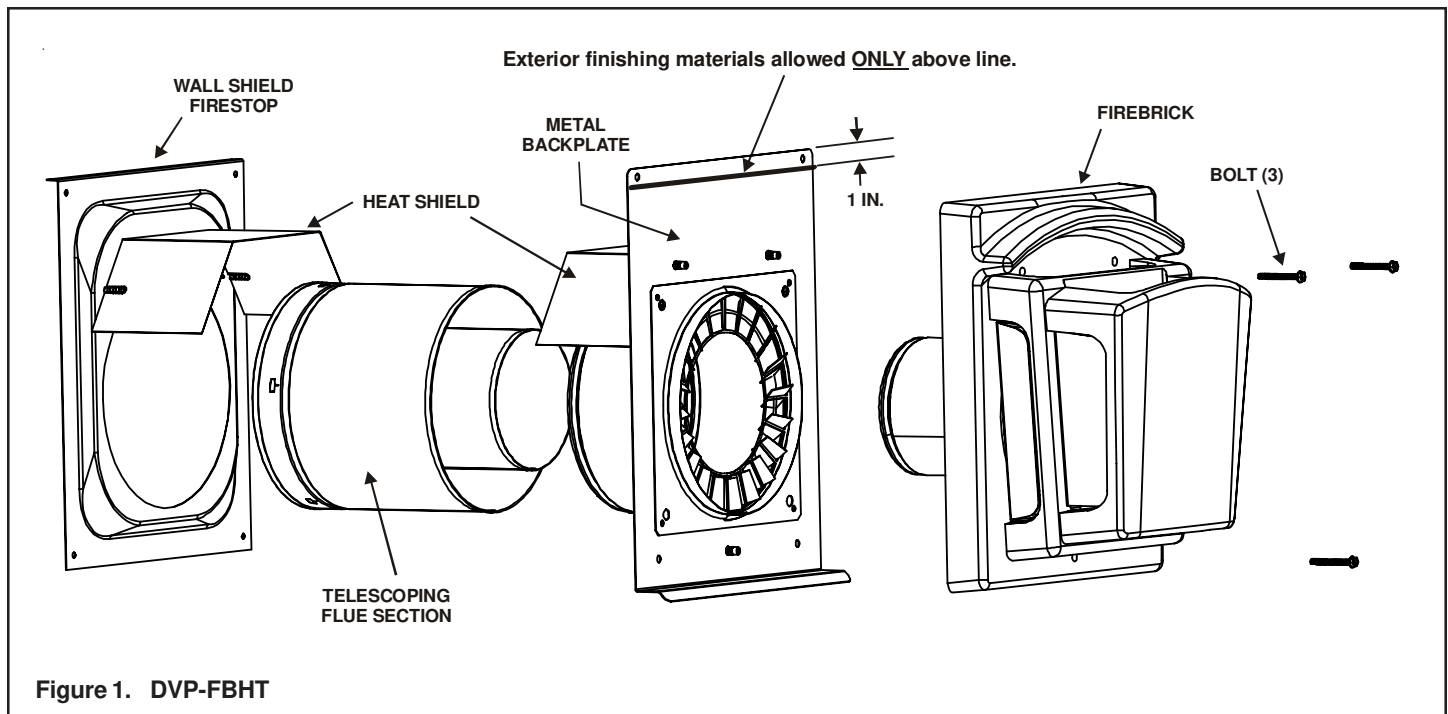

Figure 1. DVP-FBHT
The DVP-FBHT is a horizontal firebrick termination cap with 4 inch telescoping flue (see Figure 1).
5. Remove the three bolts from the firebrick cap face to separate the firebrick part of the cap from the metal backplate (see Figure 1).
If the firebrick section of the cap is going to be left off until after the structure's exterior is finished, do **NOT** place exterior finishing materials over the metal backplate. Only the top 1 inch of the metal backplate can be covered with finishing material (see Figure 1).